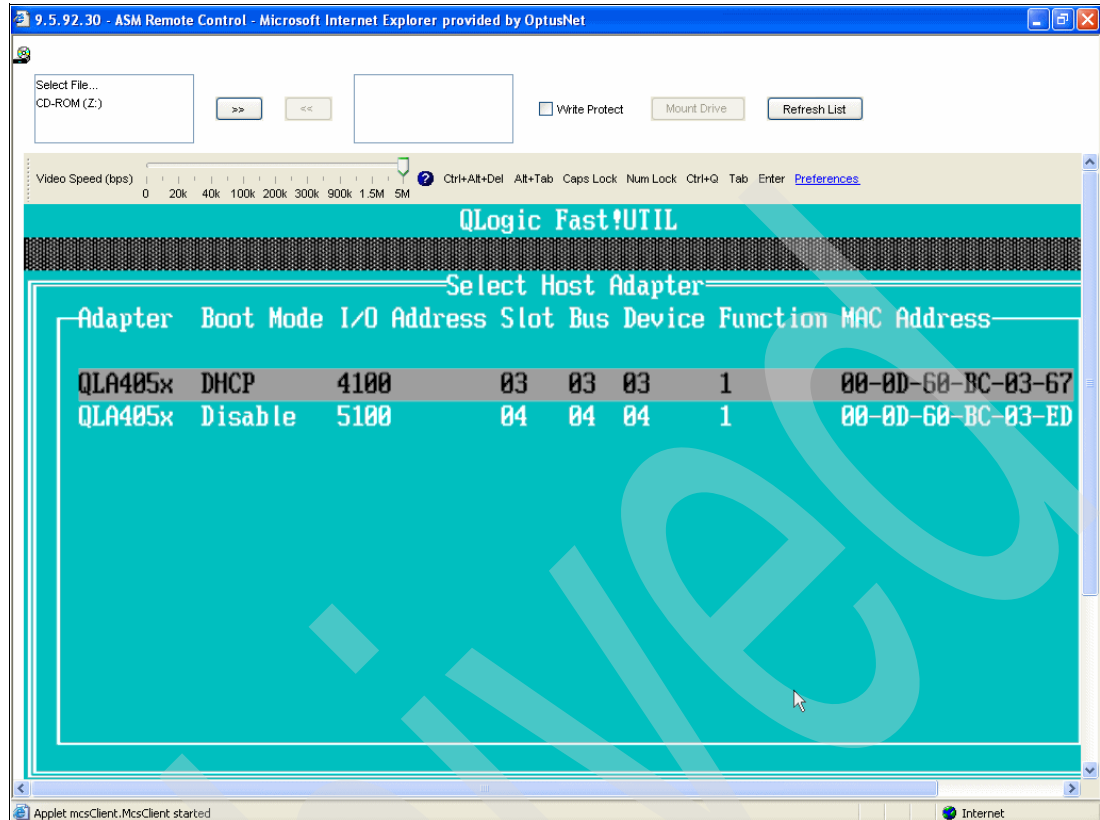

Figure 9-59 QLogic Fast!UTIL display
3. After a minute or two, you see the display shown in Figure 9-59 on page 430.
Figure 9-59 shows two initiator HBA ports that are installed in the xSeries or Blade server, their MAC addresses and other configuration information.
In Figure 9-59, the second port is the one which has just been installed. You can tell which port has just been installed from its MAC address, because you would have previously recorded the MAC address of the first port you installed in order to configure the IP addresses in the RMTSYS object for this xSeries or Blade server.
Alternatively, you can tell which port has just been installed by comparing the MAC addresses shown in Figure 9-59 with the MAC addresses printed on a sticker attached to the adapter. An xSeries HBA has a label with two MAC addresses (one for the SCSI side and the other for the LAN side) whereas a Blade HBA has a label with four MAC addresses (one for the SCSI side and the other for the LAN side of both ports). The SCSI side MAC is labelled "iSCSI" and the LAN side is labelled "TOE" (TCP Offload Engine). Note that you need to record the MAC addresses on the Blade HBA before you install it because the sticker is not visible once the HBA is installed.
In the example shown in Figure 9-59 on page 430, these values are: 4, 4, and 1 respectively. You need this information later when you specify the boot port in the RMTSYS object.
- Record the MAC address of the initiator HBA port you just installed, which is going to be your new boot port. In Figure 9-59 on page 430, the value is: 00 0D 60 BC 03 ED.